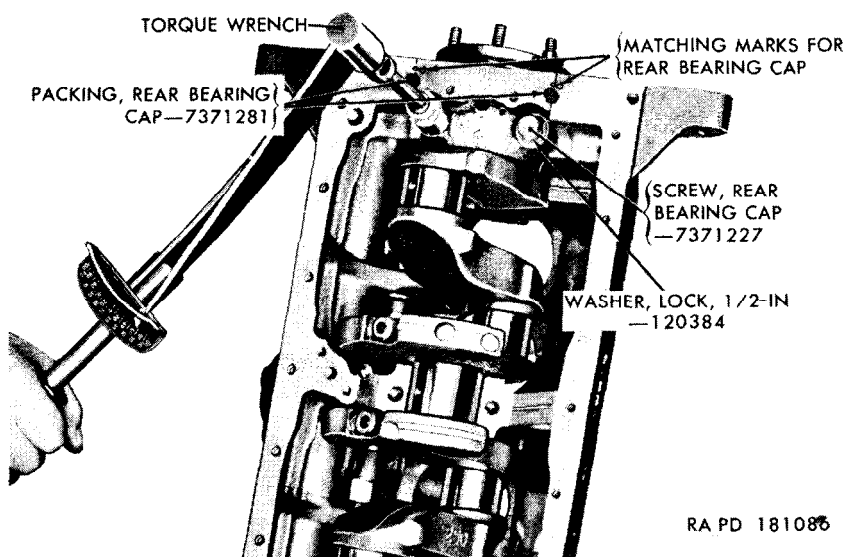

Figure 75. Installing rear bearing cap.
either side of the rear bearing cap (fig. 75). The ends of the packing should protrude approximately one-fourth of an inch. Do not cut them off because when the oil pan is installed, it forces the packing further into the holes to effectively seal this area against oil leaks.
h. Secure the rear bearing cap in place with two 1/2-inch lockwashers (fig. 75) and two rear bearing cap screws. Tap the bearing cap to align the matching marks on the bearing cap with those on the cylinder block. Tighten the cap screws to 65 to 70 pound-feet torque.